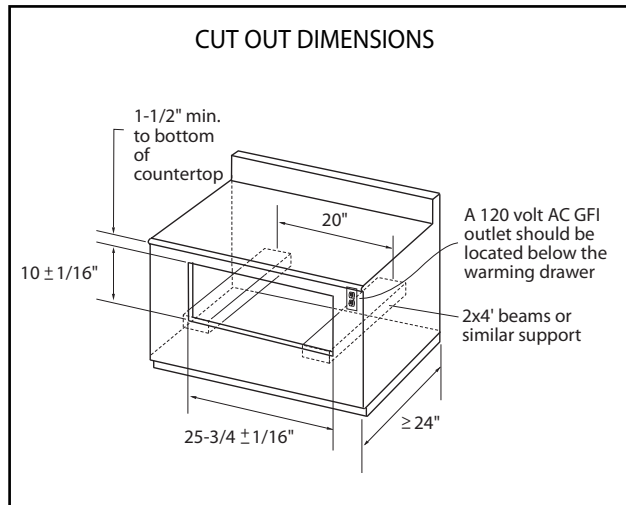

Fig. 1
The cabinet depth from the outer edge of the face frame to the inside back of the cabinet or wall should be at least 24" (see Fig. 1).
**The floor of the opening should be constructed of plywood strong enough to support the weight of the oven (or use 2x4 constructions - see Fig. 1)